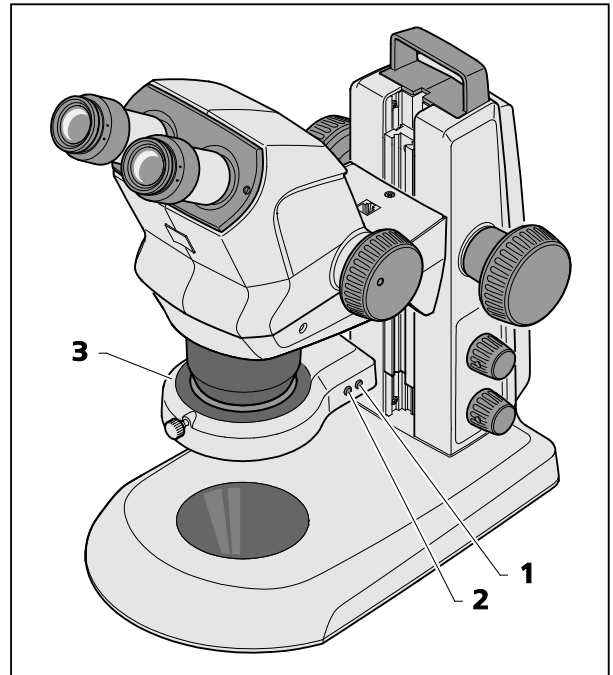

Fig. 17 Ring illuminator
- By pressing the front button (Fig. 17/2) successively, the user can change over between four illumination states of the ring illuminator (Fig. 17/3):
- By pressing the rear button once briefly (Fig. 17/1), the adjusted segment is turned forward clockwise by one quarter turn in each case.
- By pressing and keeping the rear button (Fig. 17/1) pressed for over 2 seconds, the adjusted segment is set into continuous rotation (rotation steps of 1/8 circle, 1 second per turn in each case).
- By pressing the rear button once more (Fig. 17/1), rotation is stopped and the specimen is backlit again.